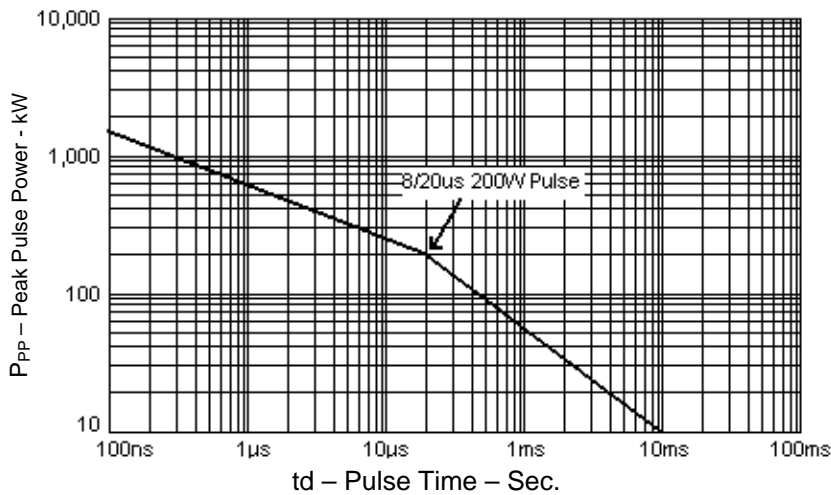

FIGURE 1
- Peak Pulse Power: 200 watts (8/20 μs, Figure 1)